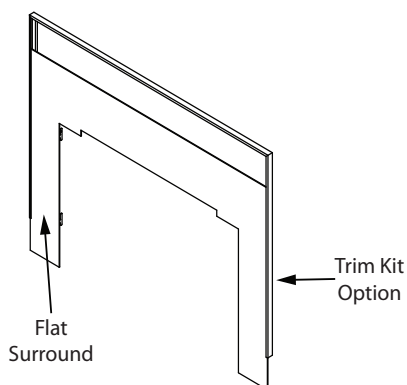

Figure 21.2
4. Slide trim over flat surround as shown in Figure 21.2.